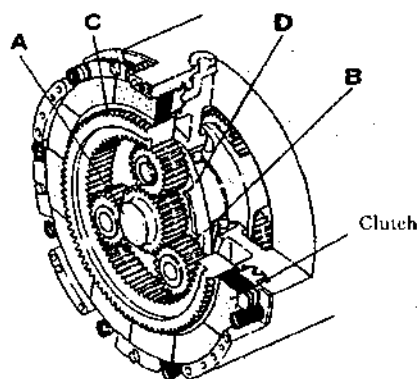

Fig. 2-10 Operation principle of planetary gear
The planetary gear system is composed of sun gear(A), planetary gear(B), ring gear(C) and carrier(D) (See Fig. 2-10). The planetary gear(B) is supported on the carrier(D) and meshes with the sun gear(A) and the ring gear(C).